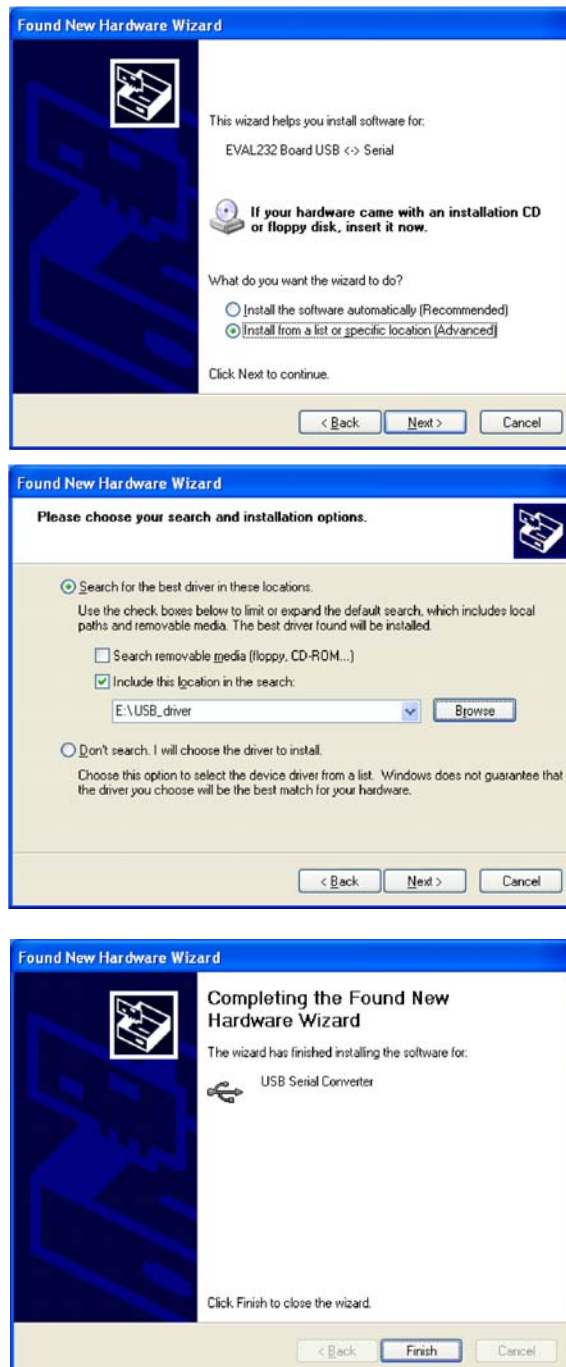

Fig. 2.4: Installing the driver
- The operating system will signal to have found new hardware. Insert the FLOWSIC600 CD ROM which is included in the delivery and follow the installation assistant (see **Fig. 2.4**).